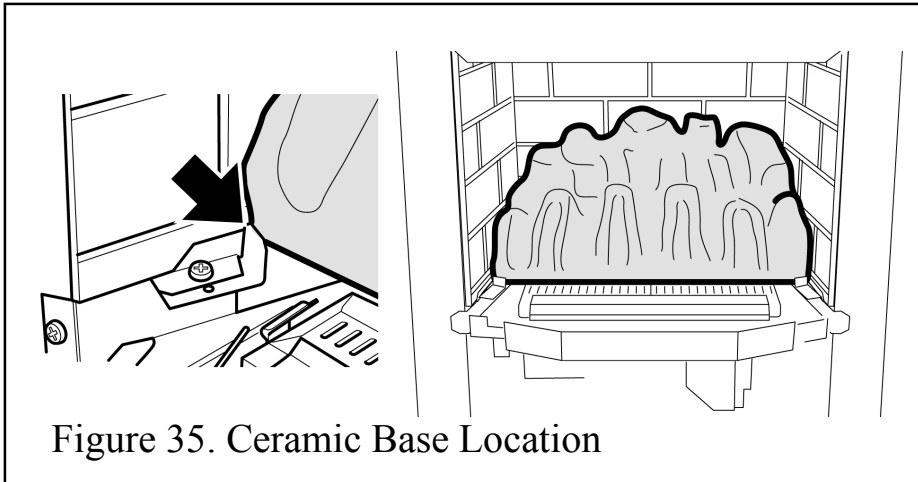

Figure 35. Ceramic Base Location
1. Place the ceramic base coal in the burner compartment. The bottom rear face of the coal should rest on the angled ledges at the back of the burner compartment. The bottom front edges of the coal base should locate against the left and right hand side brackets. (See figure 35).